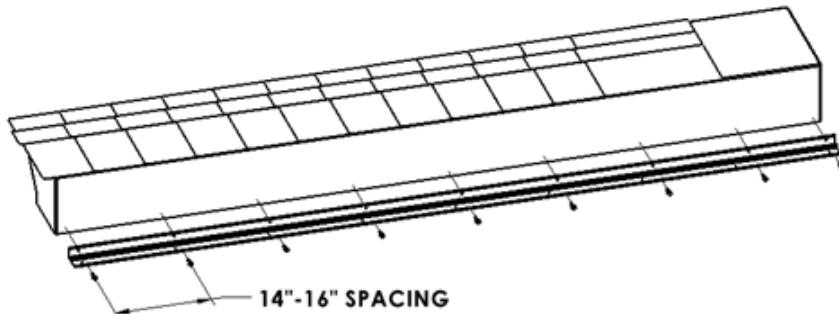
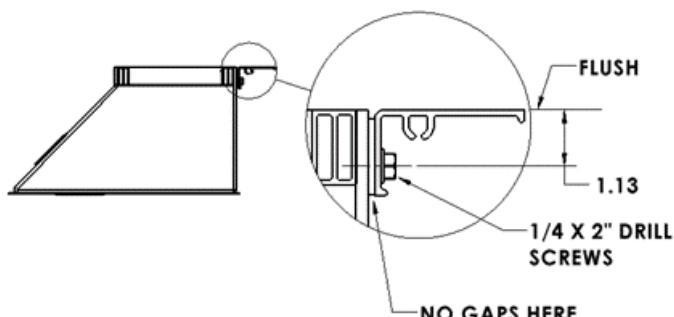
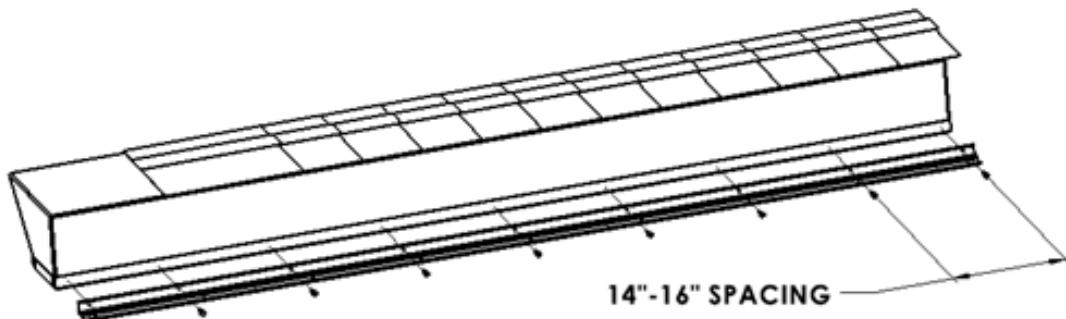
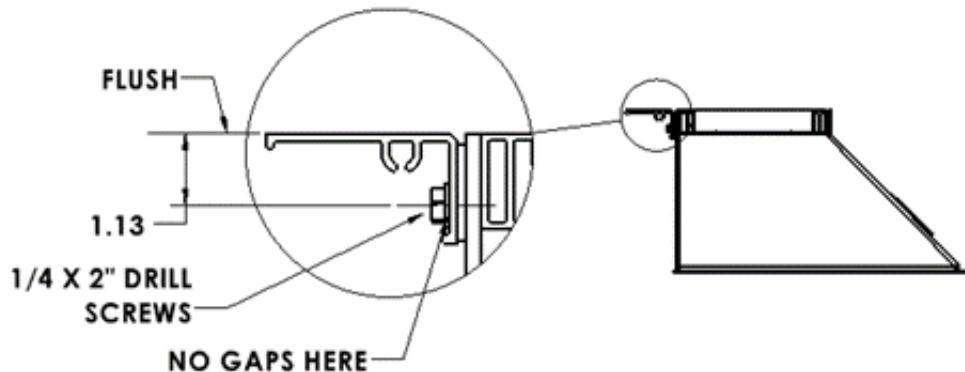

FIGURE 2
FIGURE 3
FIGURE 4
FIGURE 5
c. Mark the screw locations on the short side lip of the bracket for the fasteners, as shown (Figure 2 & Figure 3). Fasteners need to be spaced 14"-16" apart. Ensure the new screw locations are not in line with the existing screws on the side of the Right-Side Pad (D).
d. Use the markings above to screw the Long Bracket w/Seal (A) to the Right-Side Pad (D) using the supplied 1/4"x2" Long Drill Screws (I). Make sure the back side of the Long Side Bracket w/Seal and back side of the Right-Side Pad are flush, as shown (Figure 3). Also, ensure that there are no gaps between them.
4. ATTACH LONG BRACKET w/Seal (A) TO LEFT SIDE PAD (C):
- Place the Long Bracket w/Seal (A) next to the Left-Side Pad (C), ensuring that the ends of the bracket are flush with the ends of the Side Pad Backer.
- Mark the screw locations on the short side lip of the bracket for the fasteners, as shown (Figure 4 & Figure 5). Fasteners need to be spaced 14"-16" apart. Ensure the new screw locations are not in line with the existing screws on the side of the Left-Side Pad (C).
- d. Use the markings above to screw the Long Bracket w/Seal (A) to the Left-Side Pad (C) using the supplied 1/4"x2" Long Drill Screws (I). Make sure the back side of the Long Side Bracket w/Seal and back side of the Left-Side Pad are flush, as shown (Figure 5). Also, ensure that there are no gaps between them.